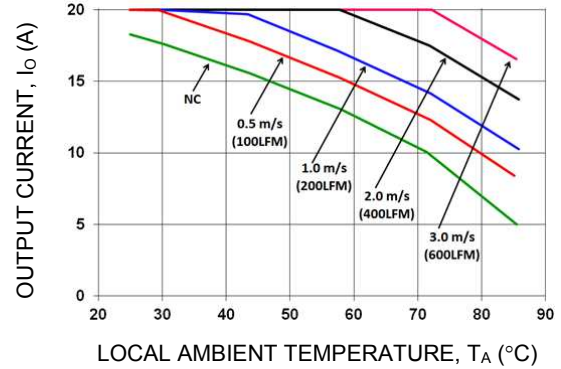

Figure 20. Output Current Derating for the Open Frame EBVW020A0B in the Transverse Orientation; Airflow Direction from Vin(-) to Vin(+); V_{in} = 48V.
Increased airflow over the module enhances the heat transfer via convection. The thermal derating of figures 20 through 22 show the maximum output current that can be delivered by each module in the indicated orientation without exceeding the maximum TH_x temperature versus local ambient temperature (T_A) for air flows of, Natural Convection, 1 m/s (200 ft./min), 2 m/s (400 ft./min).
The use of Figures 20 is shown in the following example:
Determine required airflow (V) (Use Figure 20):